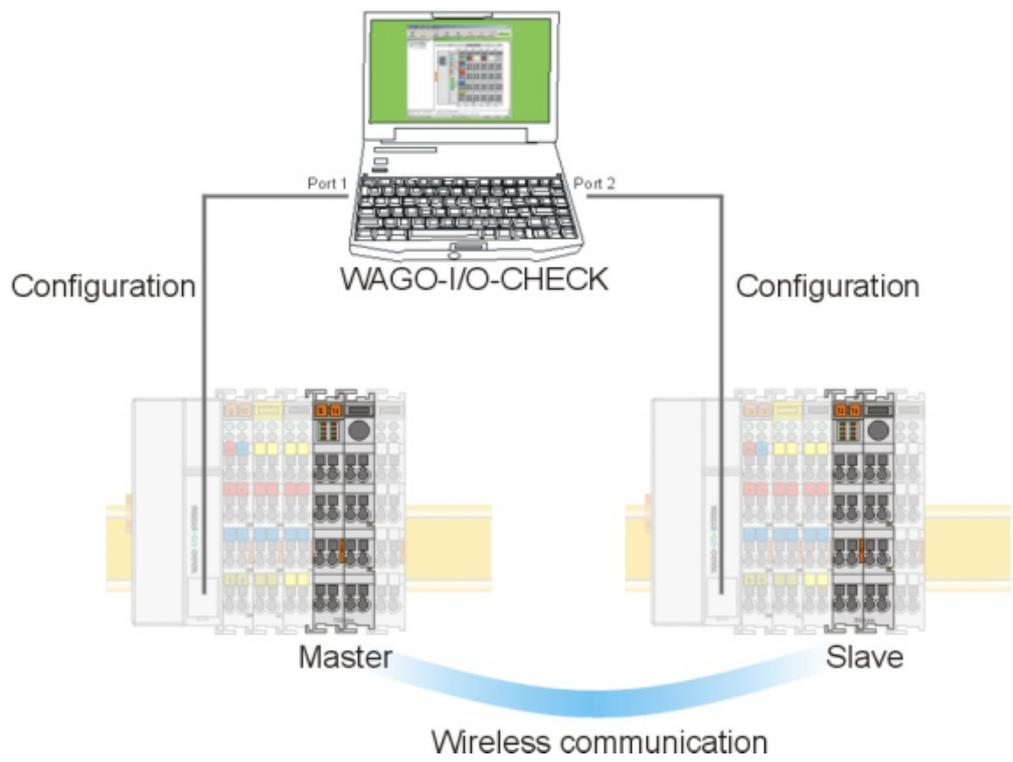

Figure 1: Hardware configuration
1. Construct two identical bus nodes as shown in Figure 1.